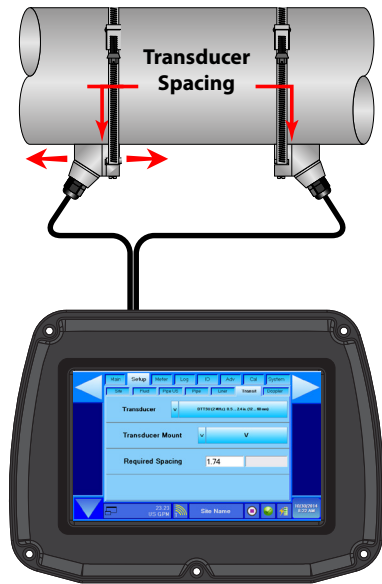

Figure 22: Transducer positioning
2. Using the alignment marks, place the downstream transducer on the pipe at the calculated transducer spacing. See Figure 22 on page 23. Apply firm hand pressure. If signal strength is greater than 10%, secure the transducer at this location. If the signal strength is not greater than 10%, using firm hand pressure, slowly move the transducer both towards and away from the upstream transducer while observing signal strength.